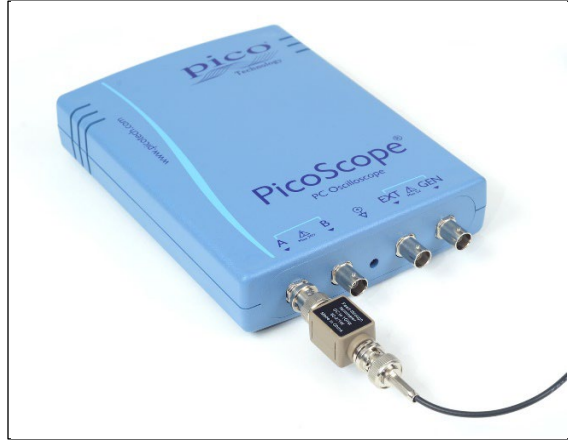

Figure 6. Connect the female end of the 50-ohm terminator to Channel A of the PicoScope®
5. Connect the female end of the 50-ohm terminator to Channel A of the PicoScope® (Figure 6).